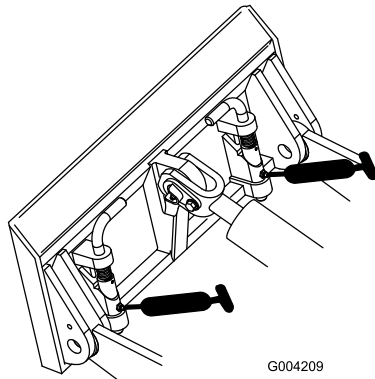

Figure 18
3. Connect a grease gun to each fitting (Figure 17 and Figure 18).